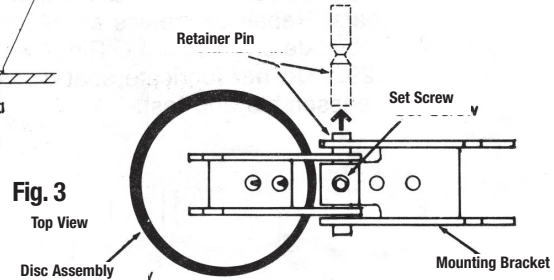

Fig. 3
4. Reach in through the access opening and remove the entire clapper assembly. Opening the clapper assembly and laying it flat on a table (refer to Fig. 3).